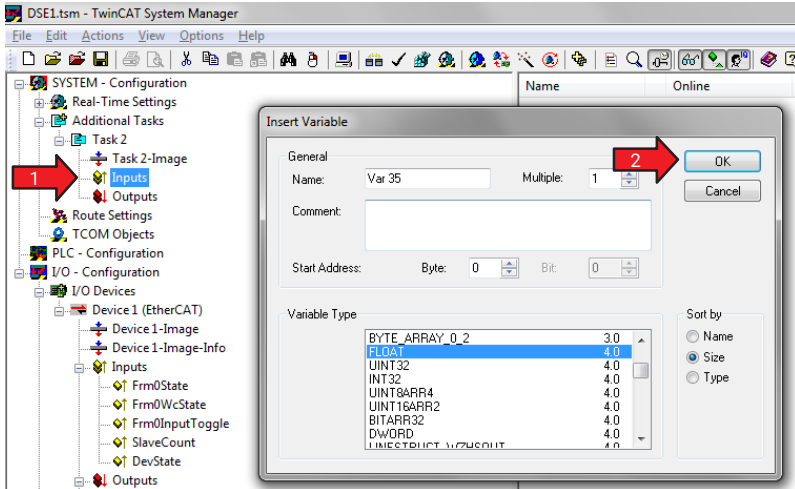

Fig. 6.21 Creating a variable for measured values
- Use the context menu (right mouse button) of **Inputs** under **Task2** to create a new variable (Fig. 6.21) – here a float variable for measured values (**Var35**).